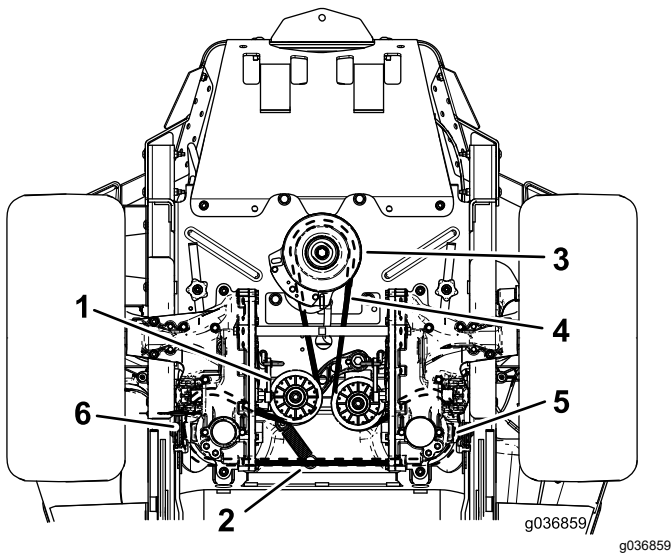

Figure 64
6. Remove the idler spring from the post (Figure 64).
8. Install the new belt around the engine pulley and the 2 hydraulic-pump pulleys (Figure 64).